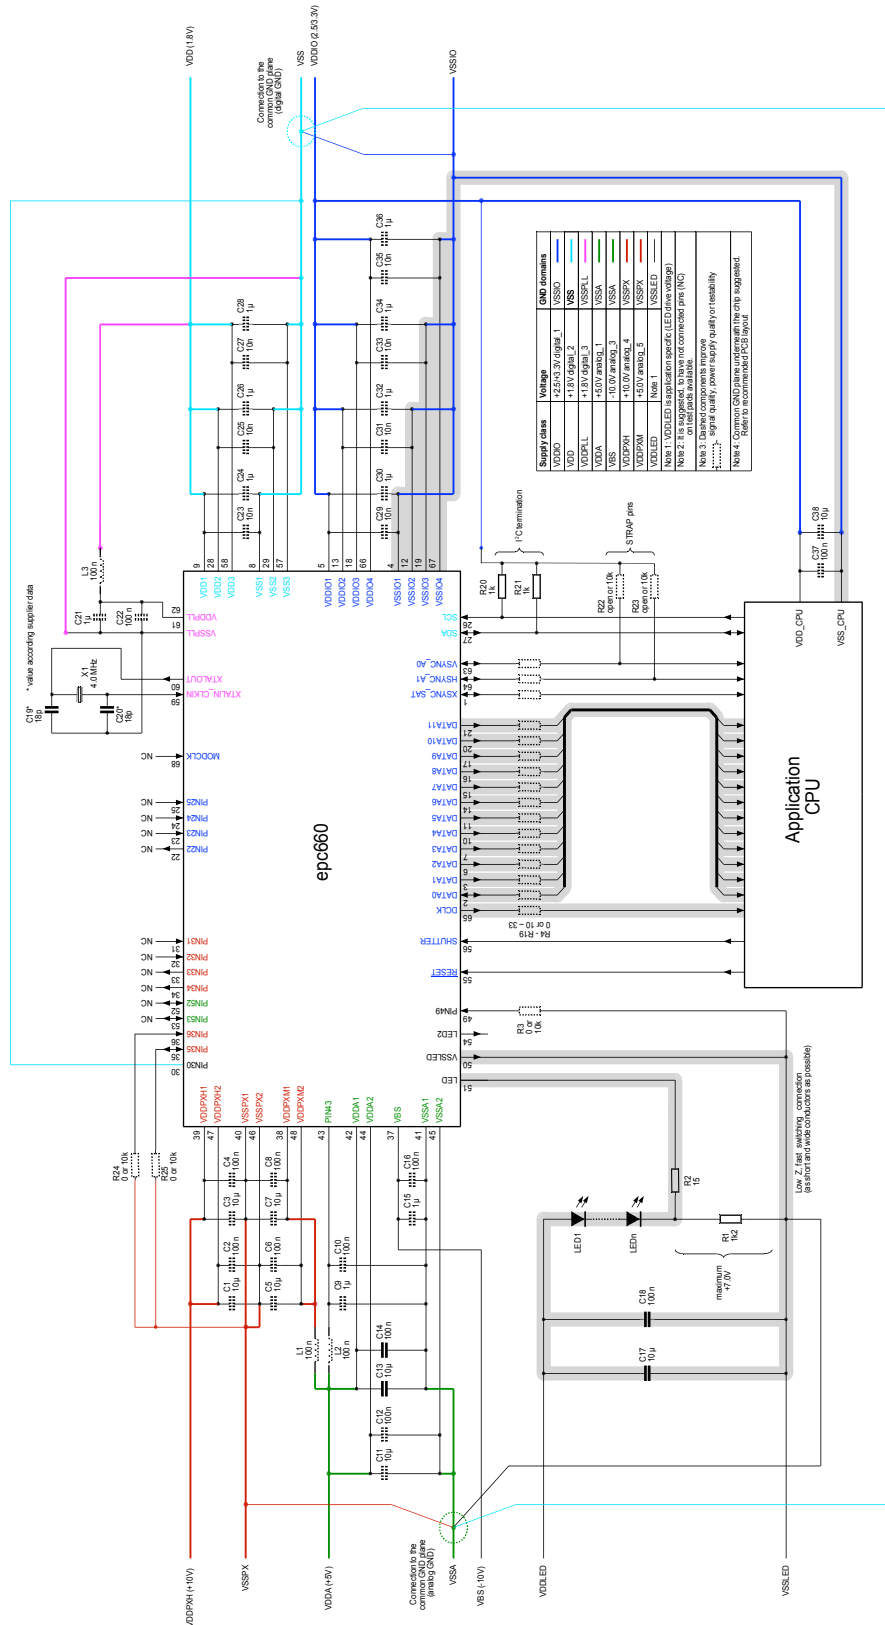
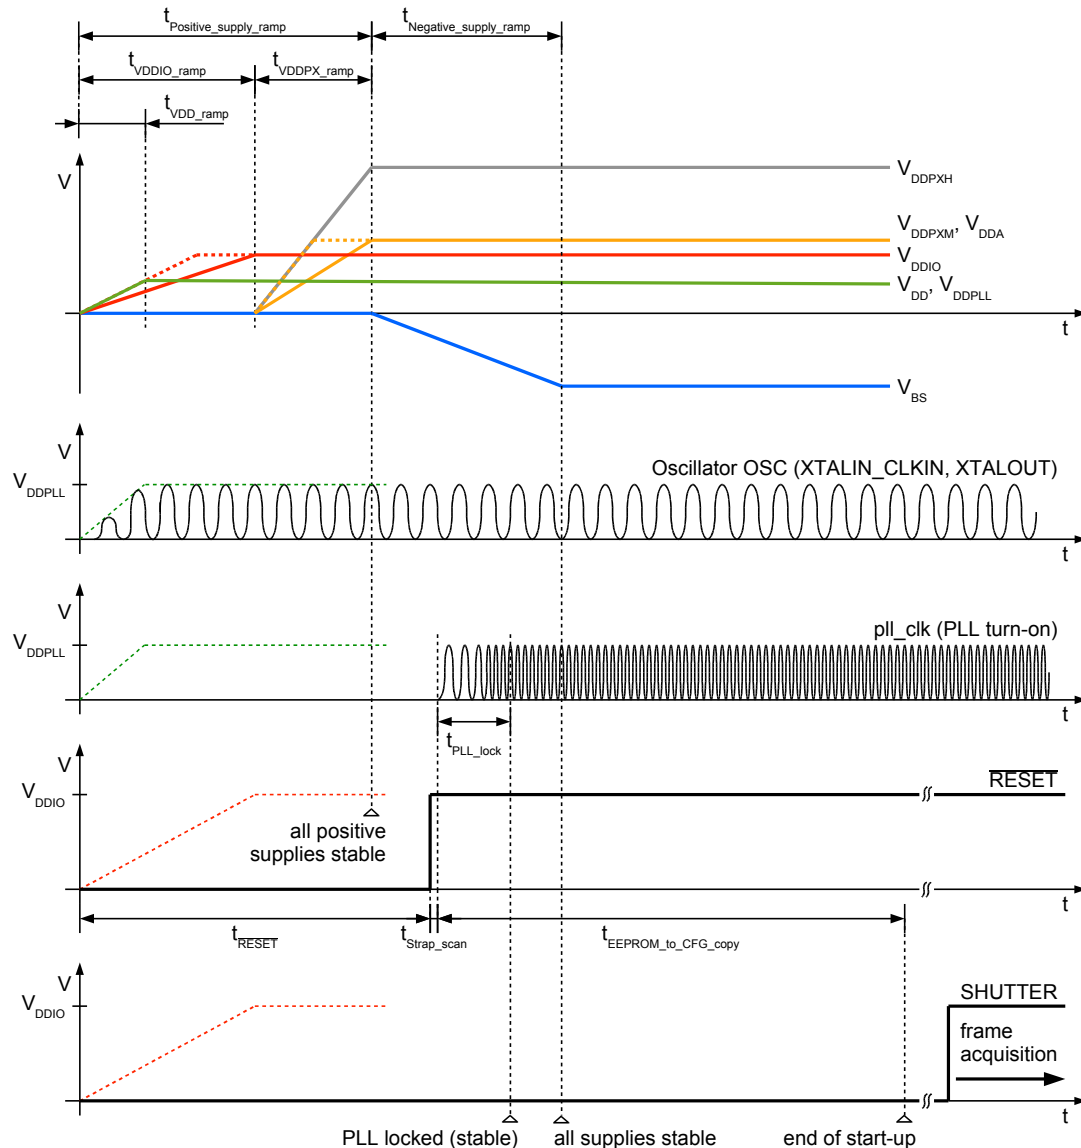

Figure 15: Typical application diagram
Figure 19: Power-up and reset sequence
Table 11: Values of component related to epc660 chip, see Figure 15
- epc660 is supplied with +1.8V, +2.5/3.3V, +5V, +10V and -10V. See Figure 15.
- +1.8V is used for supplying the digital logic (VDD), the on-chip oscillator OSC and the phase-look-loop PLL (VDDPLL). These supplies are marked in the application diagram as VDD and VDDPLL respectively (Figure 15). Their supply wiring must be separated from the digital wires and physically isolated from each other. The XTAL/OSC and PLL are critical parts of the chip which directly impacts the optical system performance (i.e. distance calculation). Thereof, the VDDPLL supply needs a well decoupling from VDD, because the digital logic creates some internal switching noise on VDD.
5. +5V is used for supplying analog blocks of the chip e.g. pixel-field drivers and ADC readout circuitry. Refer to Figure 15.
16. Pins not listed here have to be connected according Figure 15.
During the power-up sequence, VDD and VDDPLL supplies (Figure 19) must be applied at the same time to the epc660. VDDIO can be applied either at the same time or after VDD and VDDPLL supplies become stable. In a system where VDDIO voltage is connected in parallel to application CPU IO supply pins (see Figure 15), VDD and VDDPLL can be generated by a linear regulator directly from VDDIO supply. In this case, all these three supplies ramp together.
The epc660 starts using either the internal 4MHz oscillator OSC with a crystal/resonator (Figure 15) or an external 4MHz clock, followed by an EEPROM copy sequence in parallel to the PLL turn-on phase. This is the factory default configuration. Several configuration registers are modified by copying the EEPROM content (Figure 61, i.e. overwrite reset values). The EEPROM copy step takes 340µs after the RESET is released.
The epc660 has output pins with dual/alternative functionality for PCB level flexible start-up configuration changing, called 'strap pins'. RESET release is followed by a strap pin scanning step. The chip programs its strap pins as inputs with internal pull-down resistors enabled for 4 osc\_clk periods (refer to Table 1 and Table 3.). If there is no external pull-up resistor connected, the corresponding strap pin will be scanned as logic 0 due to the internal pull-down resistor. If there is an external pull-up resistor connected (Figure 15), it will override the internal pull-down and corresponding pin will be scanned as logic 1. After the strap scan period, pins are programmed back as outputs so that they can be used for their main function. Strap pins and their definitions are listed below (Table 12).